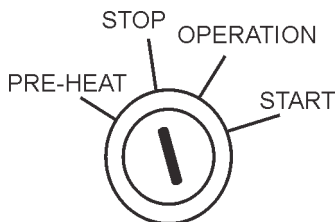

Figure 63. Ignition Switch (Off Position)
4. Place the ignition switch (Figure 63) in the “**STOP**” position, remove the key and store in a safe place.